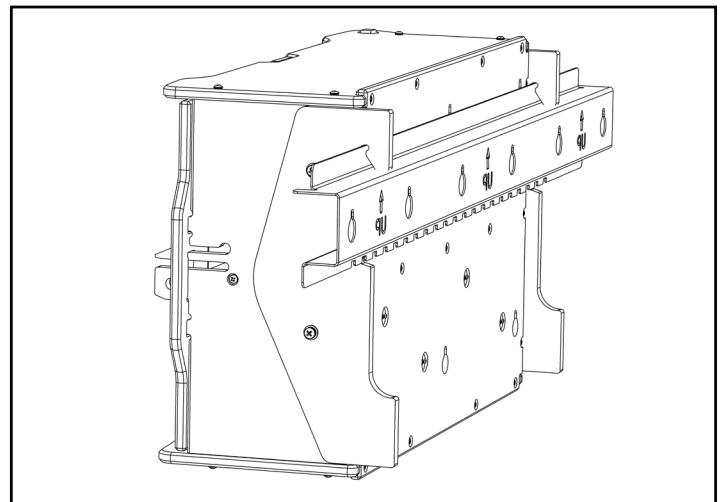

Fig. 4.2: PBX Cabinet attached to rail
3. Let the cabinet rotate back onto the rail and rest against the wall to secure in place [Figure 4.2].